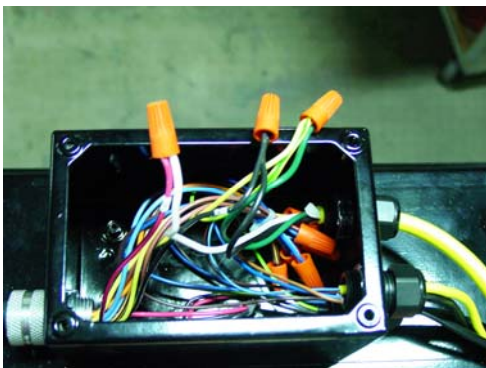
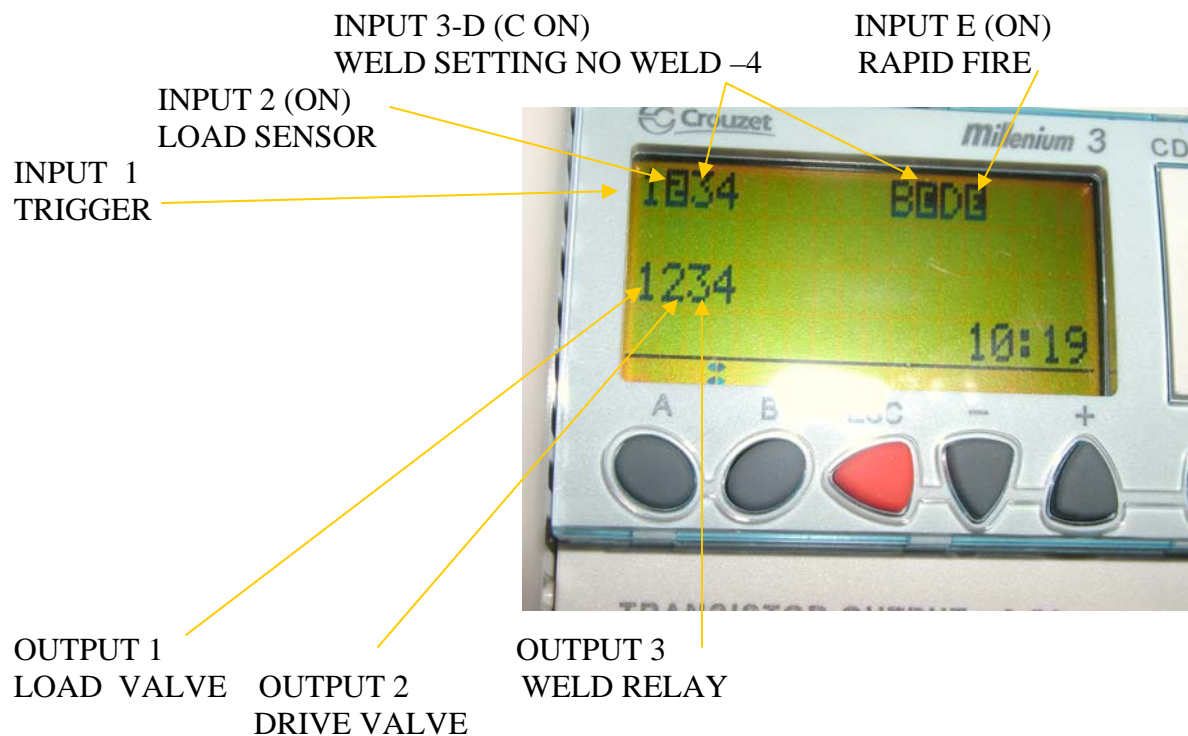

Figure 1
Figure 2
2. Place bowl feeder on machine into spaces provided, noting location of bowl exit. Wire the bowl feeder to Wires 2, 5 & GND located in the Junction Box on the top of the machine. (See Figure 1)
5. Install the front guard using the four (4) 1/4 inch truss head screws provided.
7. Connect electricity to the disconnect switch located inside the Electrical Enclosure on the door. (See Figure 2) Measure the voltage at the customer supplied fused disconnect. Set the jumper on the terminal strip (190, 208 or 230) to match the incoming voltage.